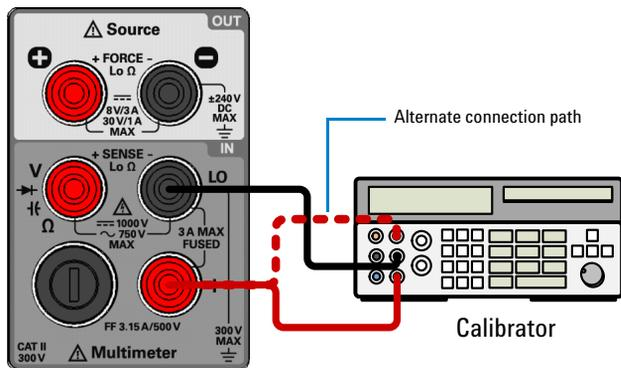

Figure 5-3 Test setup for DC current and AC current gain verification
- 1 Connect the calibrator to the front panel **I** (red) and **LO** (black) input terminals (see Figure 5-3 on page 146).